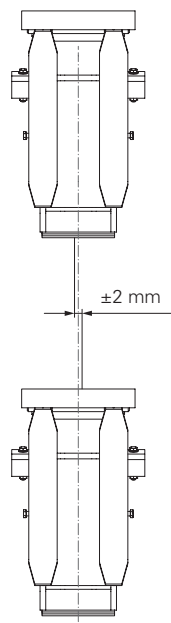

Fig. A3.33
- Climbing shoe IV: ± 2 mm (Fig. A3.33)